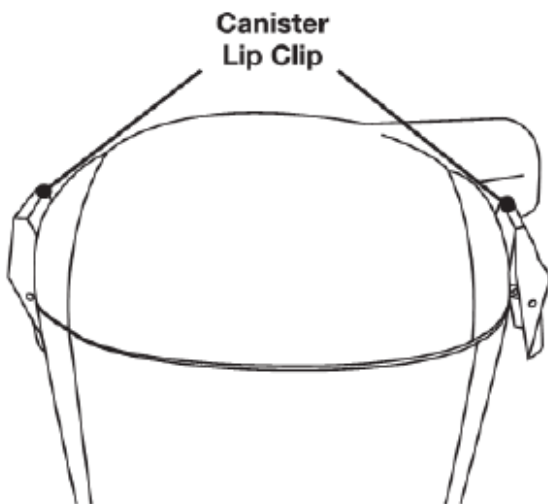

FIG 15
1. To remove the **HEPA** dust bag, press on the canister lid tabs on each side of the unit and lift canister lid. (Fig.15)
2. Pull the tab on the **HEPA** dust bag holder out slightly and lift upwards. (Fig.15)